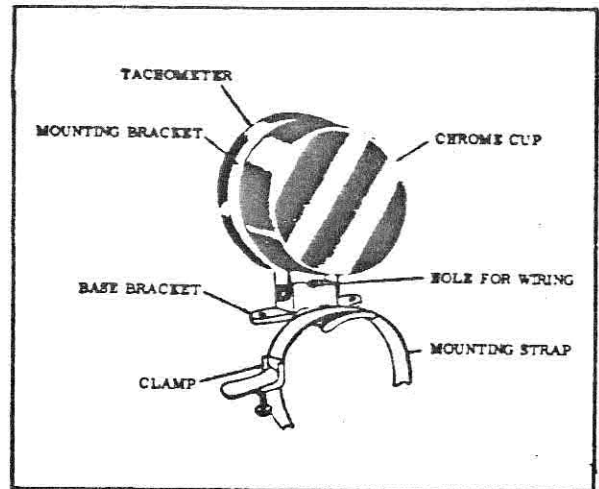

Figure 1 Cup Mounting Kit
6. Position range markers, if used. Slide mounting bracket on the chrome cup. Fasten to base bracket with screws and star washers provided. Feed wires through center hole of base bracket. Figure 1.
8. Wrap mounting strap around steering column and over base bracket. Tighten strap and secure. Figure 1.